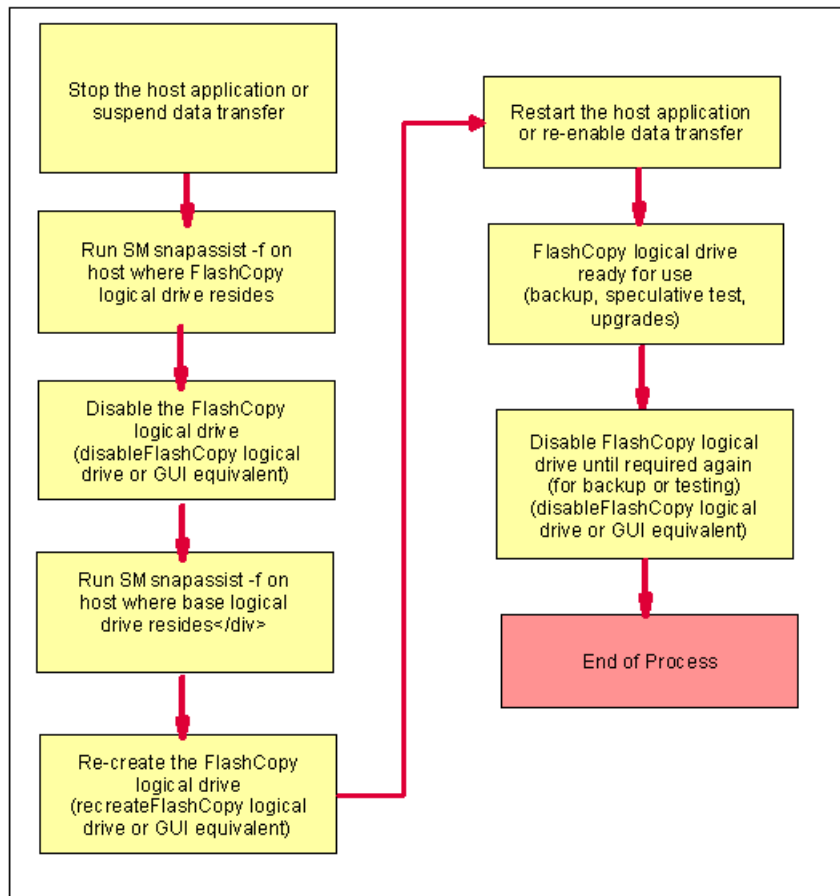

Figure A-4 Reusing a disabled FlashCopy logical drive: Windows 2000/2003 dynamic disks
- ▶ Reuse a disabled FlashCopy logical drive on Windows 2000/2003 (using dynamic disks). See Figure A-4 on page 363.